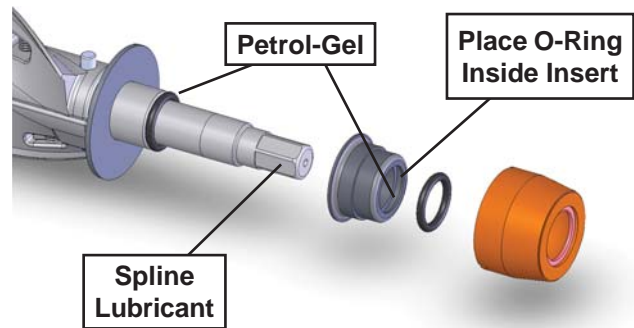

Figure 3-7 Rear Seal Lubrication
- C. Install the stainless steel rear seal adapter into the rear seal dry (without lubricant). Lubricate the inside surface of the rear seal adapter, including the adapter o-ring, and install it onto the auger shaft. DO NOT lubricate the outside of the rear seal adapter (see Figure 3-7).